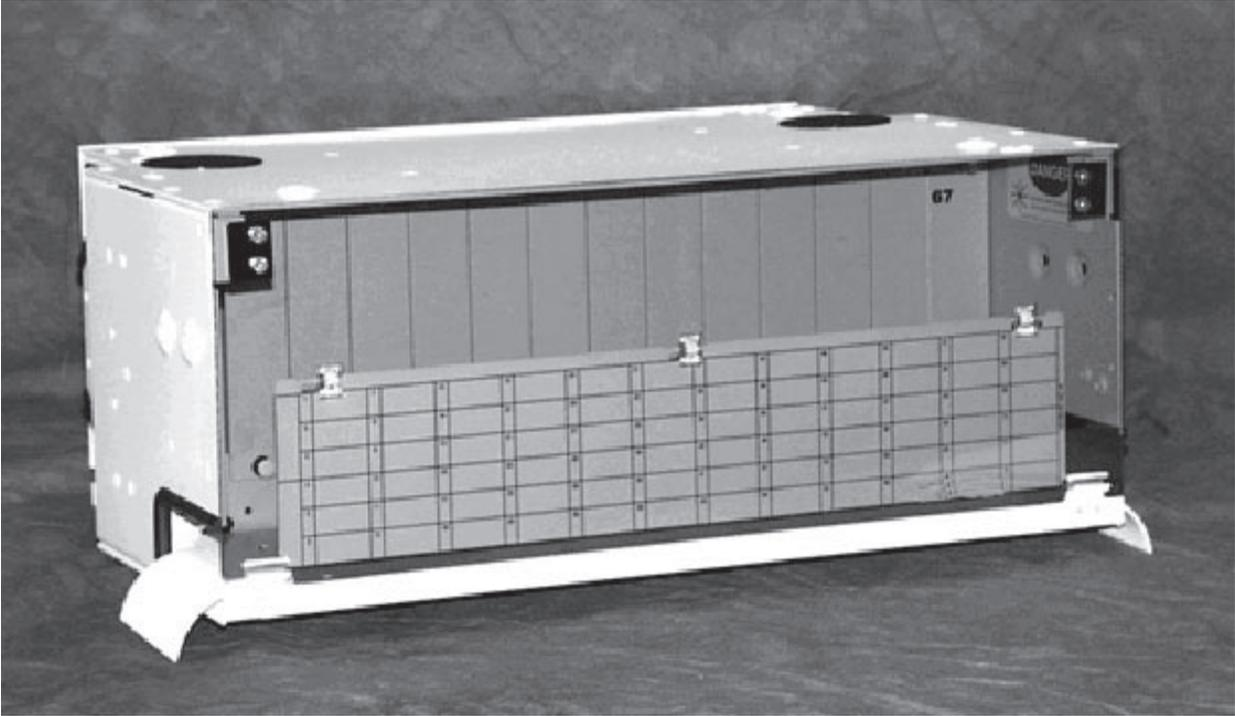

Figure 3
3.2 Configuration #1 (Protected): In installations with six or fewer primary circuits, all of the coupler modules may be installed in one LDC-CMH-072 housing, or other LGX® Frame-compatible connector module housing (Figure 3). For a protected installation, install the first (*primary*) coupler module in slot #1 of the housing (Figure 4). The corresponding *protect* module would be installed in slot #7 (Figure 5). The next primary module would be installed in slot #2, and its complement in slot #8, and so forth.